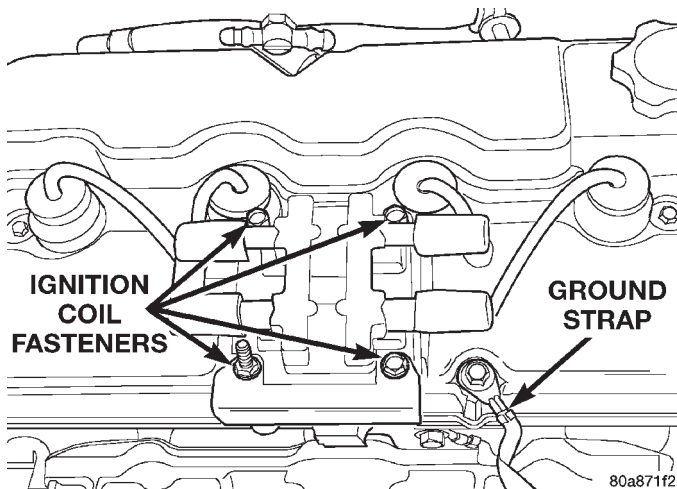

Fig. 28 Ignition Coil Pack and Ground Strap
- (1) Remove upper intake manifold. Refer to Group 11, Exhaust System and Intake Manifold.
- (2) Remove nuts attaching front and rear intake manifold supports from cylinder head cover attaching studs.
- (3) Remove ignition coil pack and plug wires (Fig. 28). Remove ground strap.
- (4) Remove the cylinder head cover fasteners.
- (5) Remove cylinder head cover from cylinder head.